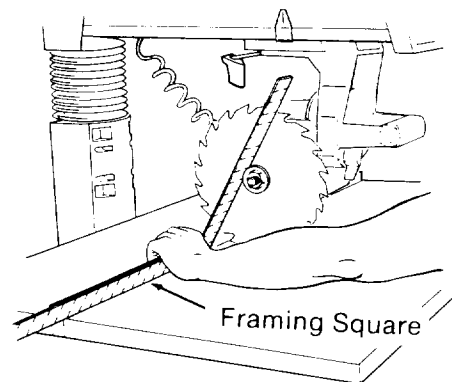

Fig. 70 - Squaring Blade to Fence
1. Put the *radial arm* in the 0° miter position with the *blade* just in front of the *fence*. (Figure 70)
3. Place the framing square with the long edge against **both** the *fence* and the *table*, and the short edge against the *blade* just above the *arbor shaft*. Make sure that the edge of the square is on the *blade* and not on the set of a tooth. (Figure 70)